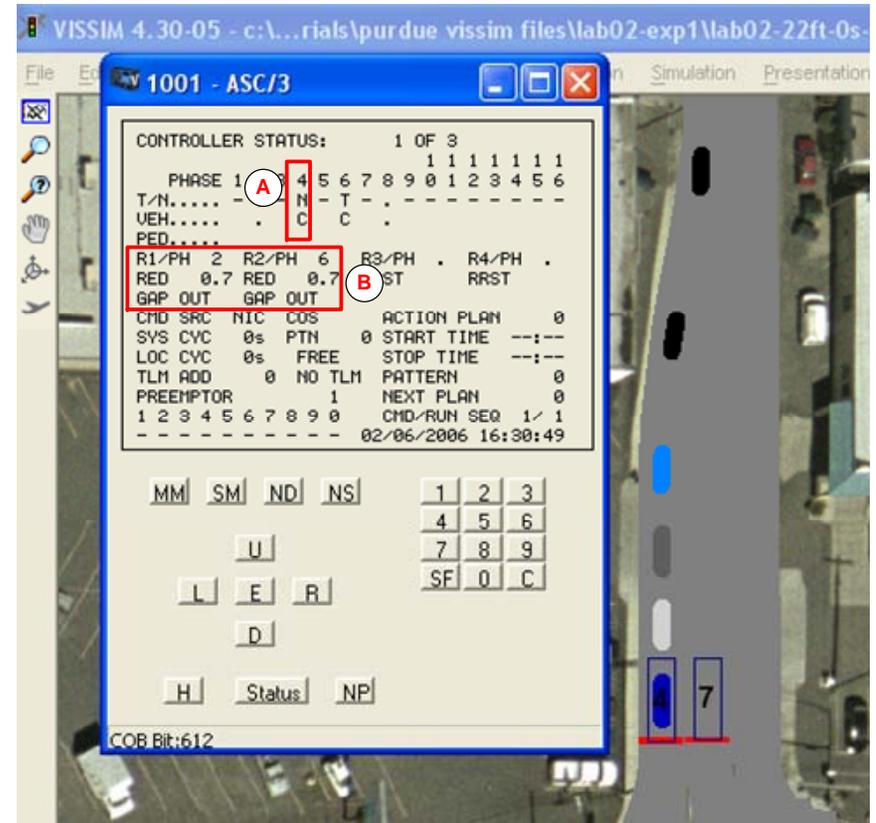

Figure 14 ASC/3 status screen at  $t = 49.1$  for both cases
- When the simulation reaches  $t = 49.1$  seconds, observe the conditions at the intersection and in the controller for both cases. See Figure 14.